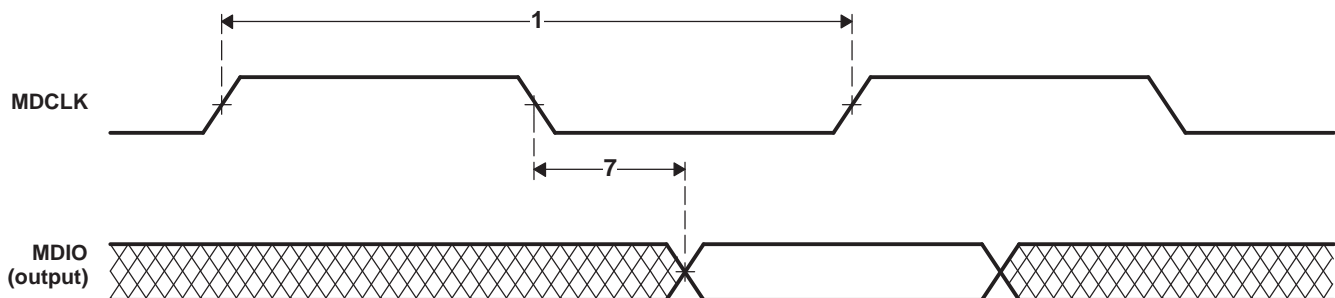

**Figure 5-53. MDIO Input Timing**
**Table 5-107. Timing Requirements for MDIO Input (see Figure 5-53 and Figure 5-54)(1)**